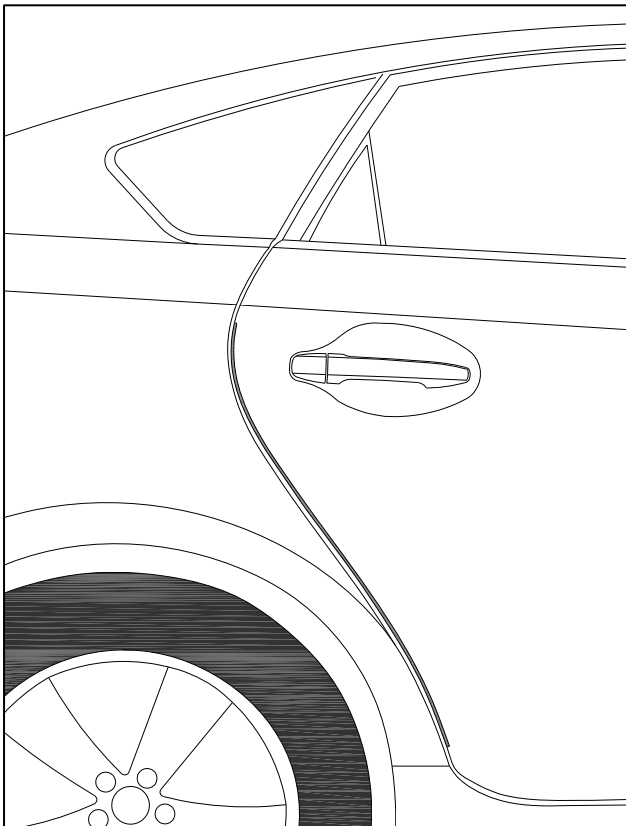

Fig. 1-13
- (r) Carefully close rear door and ensure DEG has sufficient clearance from any adjoining body panel. Carefully remove template from door and retain for use on driver side. (Fig. 1-13)